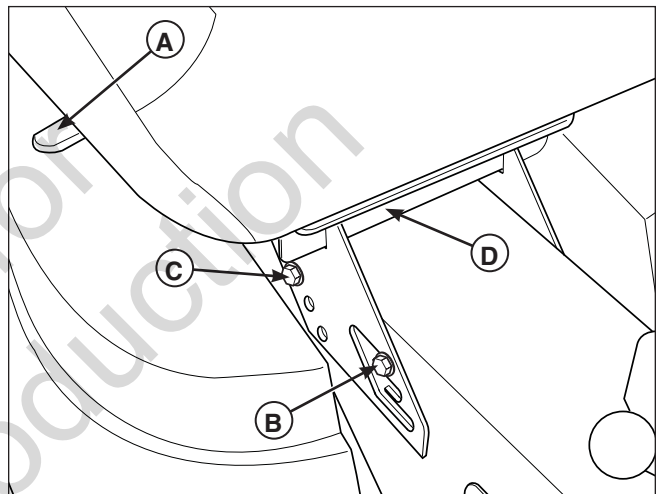

Figure 19. Seat Height Adjustment
1. Pull the seat adjustment lever (A, Figure 19) forward and move the seat to the furthest forward position to provide extra clearance between the seat and the gas tank.
2. Loosen but do not remove the front seat mounting hardware (B).
3. Remove the rear seat mounting hardware (C).
4. Maneuver the seat mount (D) until the desired height is achieved.